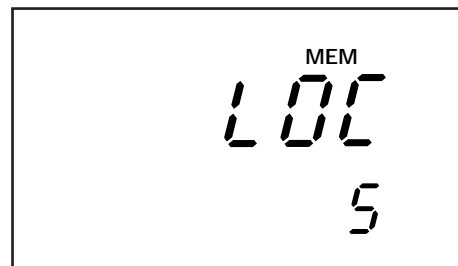

Figure 42
1. Press the **MR** key once to retrieve the last reading stored. The memory location screen—**MEM**, “**LOC**” and the memory number—will flash on the display. —See Figure 42.